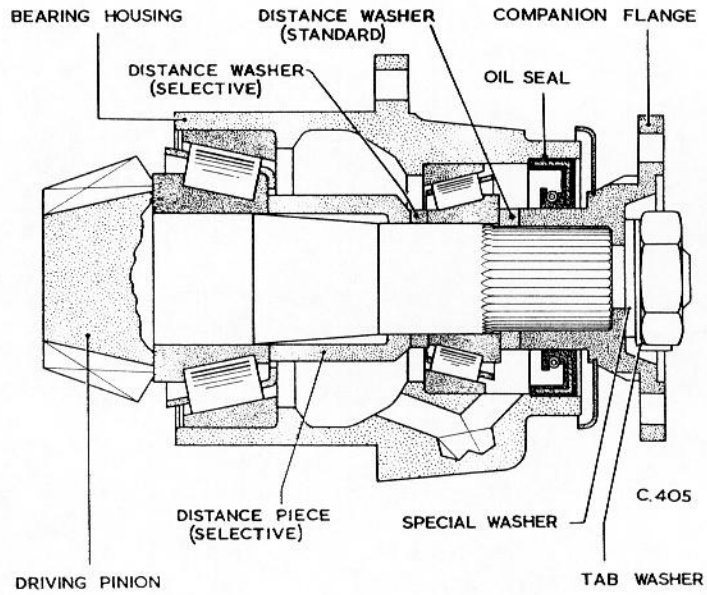
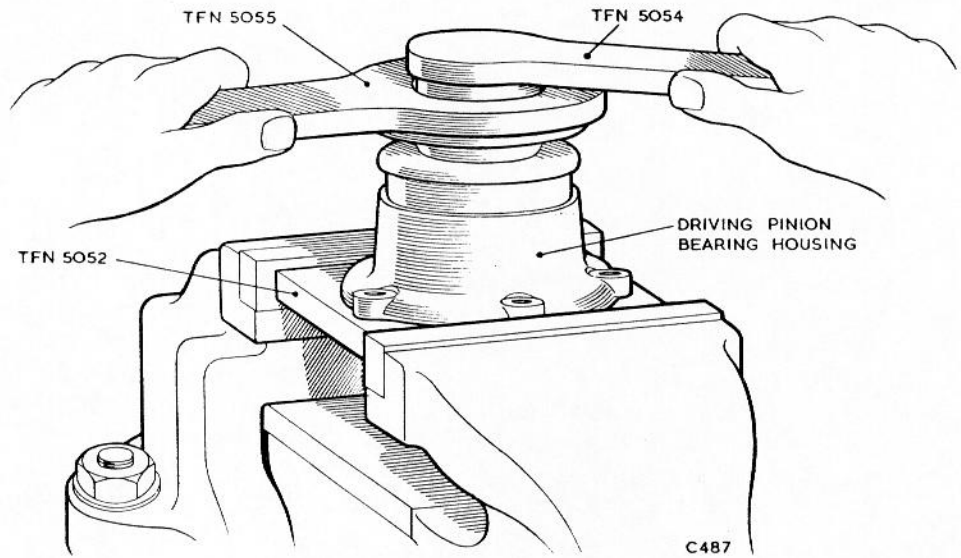

Fig. 6 Differential bearing housing assembly.
Fig. 7 Removing driving pinion.
3. Locate the bearing housing in the vice plate TFN.5052, and using spanners TFN.5054 and TFN.5055, see Fig. 7, remove the retaining nut and tabwasher see Fig.6.
To reassemble proceed as follows referring to Fig.6.
1. Referring to Fig. 6, press the two roller bearing outer races into the bearing housing (the larger inner diameters facing outwards) until they abut their respective shoulders.